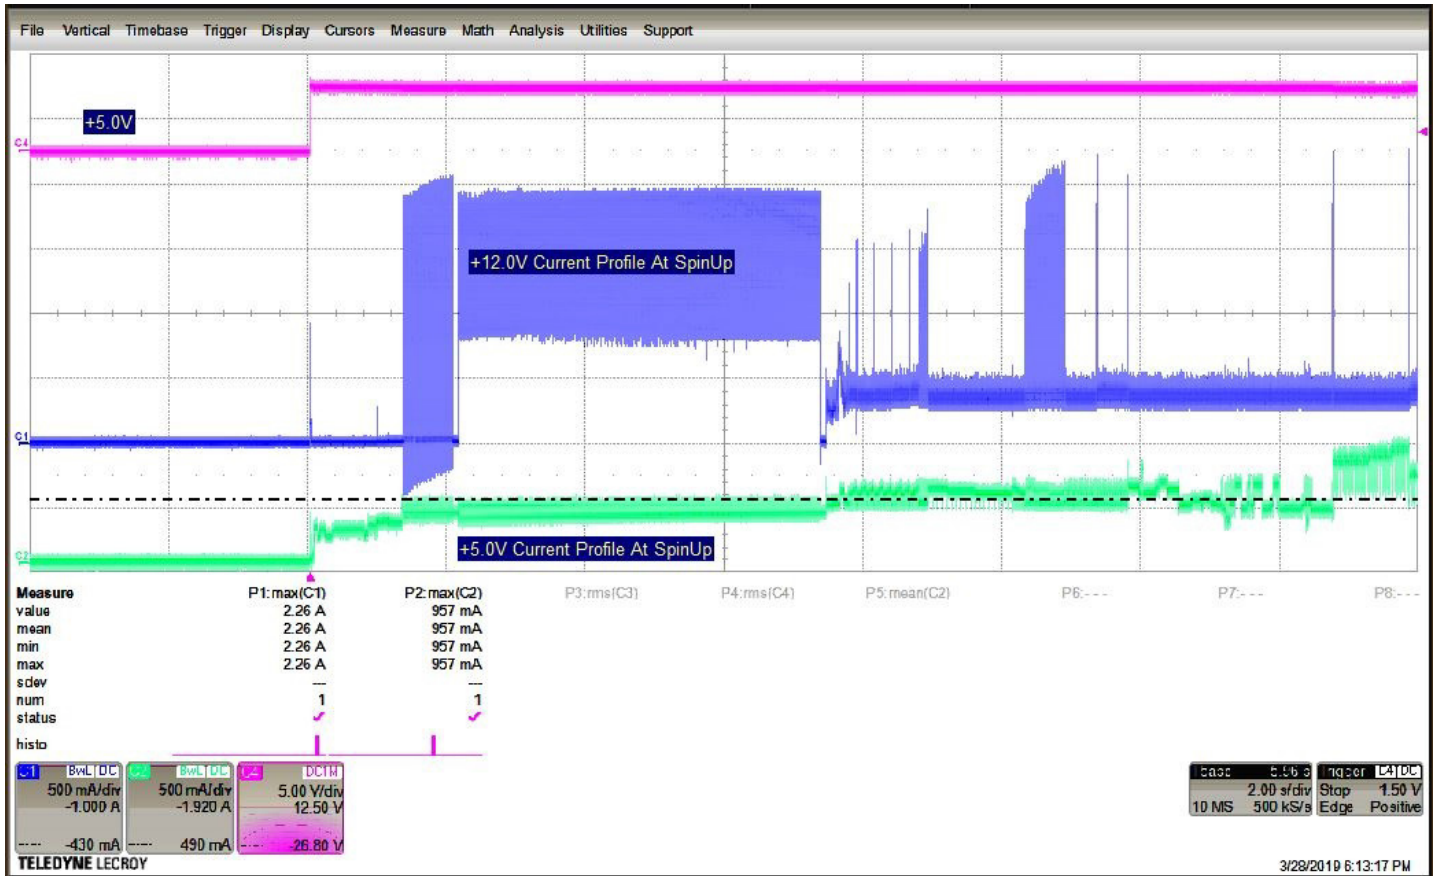

Figure 1. 16TB model current profiles.
- [3] See +12V current profile in Figure 1.